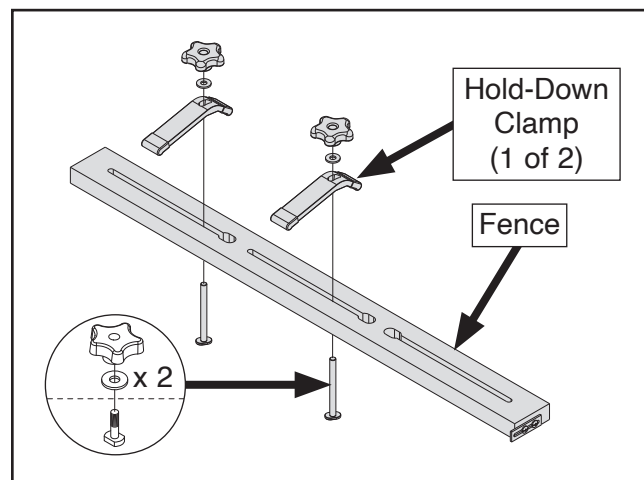

Figure 12. Installing hold-down clamps in fence.
22. Insert (2) $\frac{5}{16}$ "-18 x $3\frac{1}{2}$ " T-bolts up through fence slots shown in **Figure 12**, place hold-down clamp and $\frac{5}{16}$ " flat washer on each bolt, then secure by loosely threading (2) $\frac{5}{16}$ "-18 knobs onto bolts (see **Figure 12**).